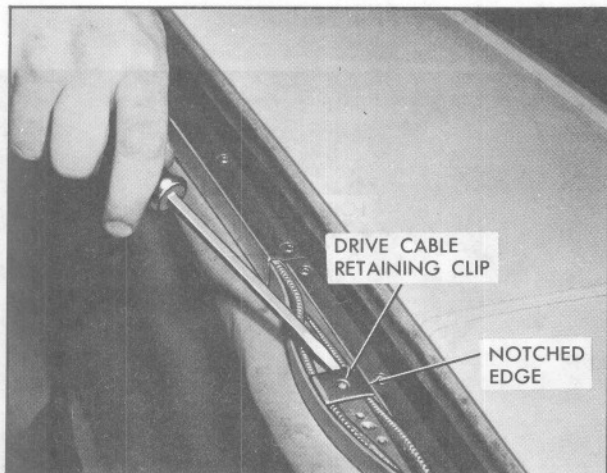

Fig. 15-27 Removing Drive Cable Retaining Clip
2. Open roof panel, remove drive housing center cover and pry off drive cable retaining clip, Fig. 15-27.
10. Using a small screwdriver, carefully pry up drive cable retaining clip, Fig. 15-27.